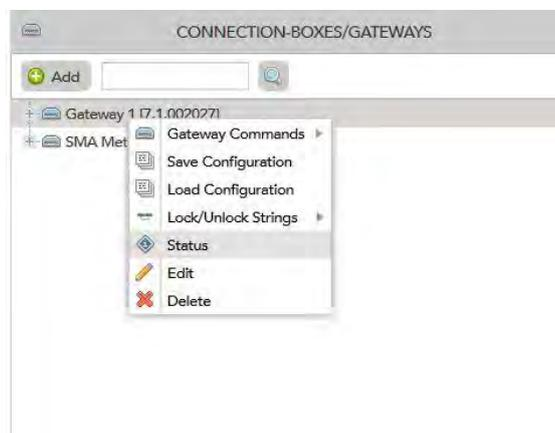

Figure 50: Opening the Status window of the Gateway.
- Now you have to check if the Gateway sends data to the Webportal, and if all String Readers are correctly recognized. For that purpose right-click the Gateway and click „Status “ (Figure 50).